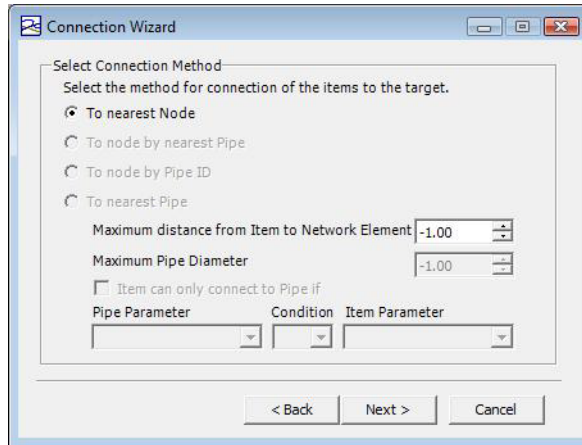

Figure 14.8 The geo-code methods, the upper two options are available for geo-coding load points to a MOUSE model
**Geo-code method:** There are two geo-coding methods available for connecting load points to the MOUSE model (see Figure 14.8):